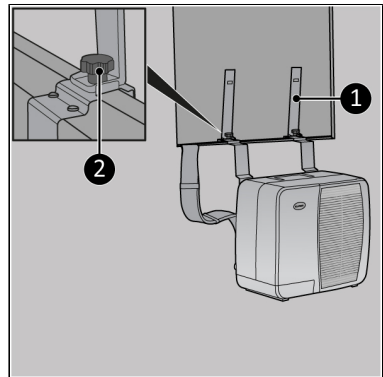

Figure 25.
1. Attach the top caravan brackets (Figure 25, pos. 1) to the bottom caravan brackets by tightening the screw cap per bracket (Figure 25, pos. 2).